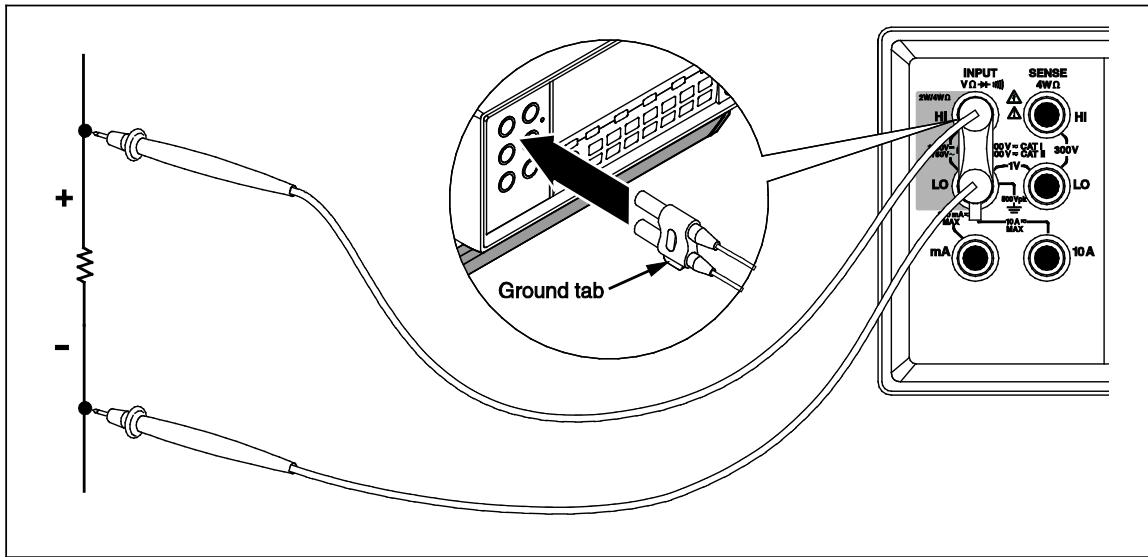

Figure 3-7. Input Connections for 4-Wire Ohms Using 2x4 Wire Leads
1. Connect the test leads to the Meter's input connectors as shown in Figure 3-7.